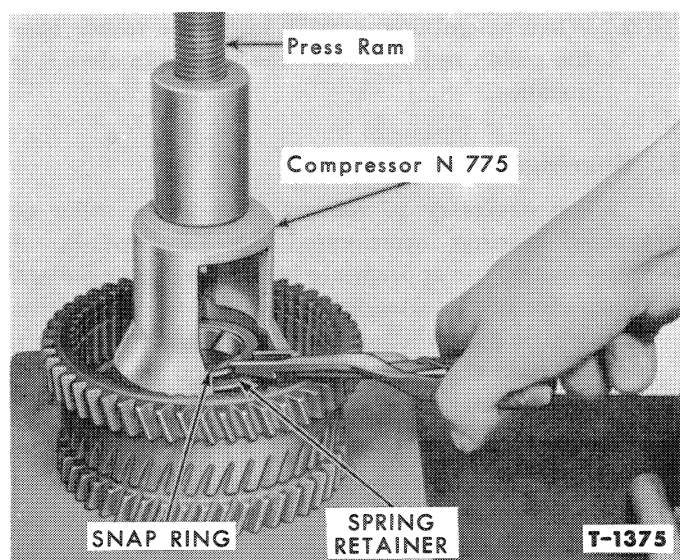

Figure 116—Clutch Spring Snap Ring Removal
3. Compress the piston return spring in a press with the Compressor N 775 shown in Figure 116, then remove the snap ring. Guide the spring retainer while releasing the press to prevent the retainer from entering the snap ring groove.
2. Install the clutch release spring and retainer, with Compressor N 775 as shown in Figure 116. Compress the spring in a press and install the snap ring.